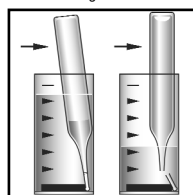

Figure 3
4. Place the CHEMet ampoule, tip first, into the sample cup. Snap the tip. The ampoule will fill leaving a bubble for mixing (fig 3).